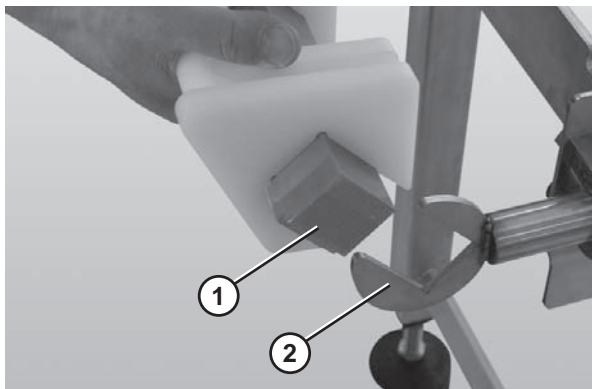

Figure 19
3. Attach the nose bar transfer post (Figure 19, item 1) to the nose bar idler shaft hands (Figure 19, item 2).